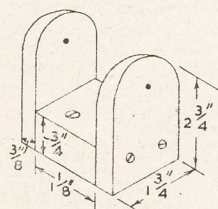
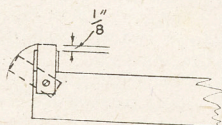

Fig. 3
Fig. 2
FROM plywood or deal board about $\frac{1}{2}$ in. in thickness cut several pieces about 8 ins. by 10 ins. to comprise a total of $1\frac{1}{2}$ ins. These pieces should be glued and screwed together, and the bottom face planed flat, if deal board is used. At each end on the top glue and screw 8 in. pieces of $\frac{1}{2}$ in. square ply or wood, as shown. From Meccano, Trix, Juneero or similar strip metal of about 3 in. width, make two 'U' shaped bars, as at (A). Screw these on at the ends of the wood block, allowing about 1 in. between the strips and the $\frac{1}{2}$ in. square pieces of wood, so that the strips can be moved, as seen in Fig. 2. Now form a stirrup from wood (Fig. 3), and screw it securely to the centre of the top of the polisher. An ordinary broom handle is drilled through about 1 in. from the bottom, and fitted to the stirrup with a thin bolt, a nail, or length of heavy gauge wire. This